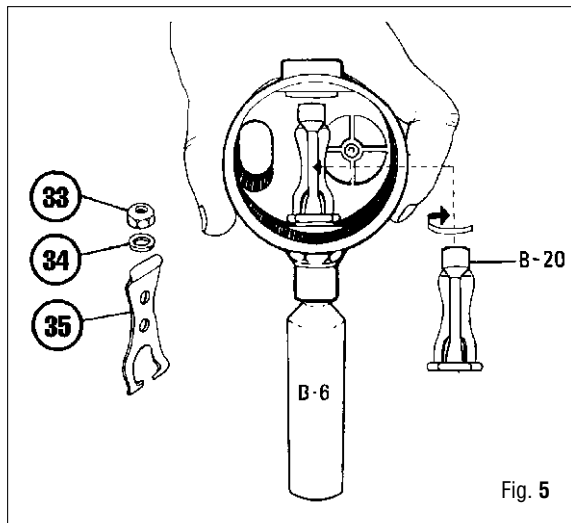

Fig. 5
13. Place a new demand lever lock nut 33 on the threaded stem of the poppet assembly and tighten the lock nut, with tool (B-12) or (B-20), until approximately 1.5 mm (1/16 in.) of the poppet stem is protruding from the nut. Depress the demand lever-35 several times to ensure freedom of movement. (See Fig. 5).